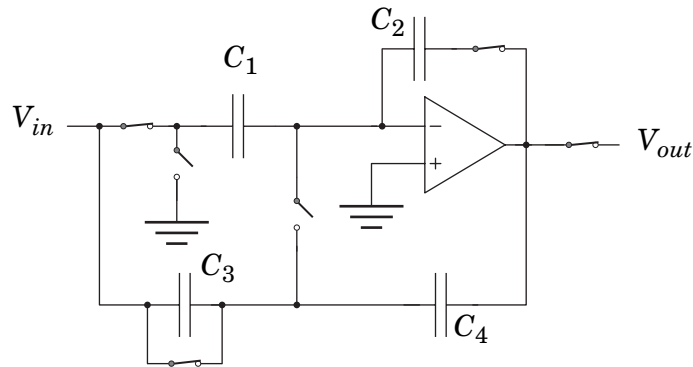

Figure 4.1 A switched capacitor circuit.
A switched capacitor circuit in clock cycle 1 is shown in Figure 4.1.
- Derive the transfer function for the clock cycle 1 of the switched capacitor circuit shown in Figure 4.1, i.e., $V_{out}(z)/V_{in}(z)$. Assume that the OTA is ideal except that it suffers from an offset voltage, V_{os} . (6p)